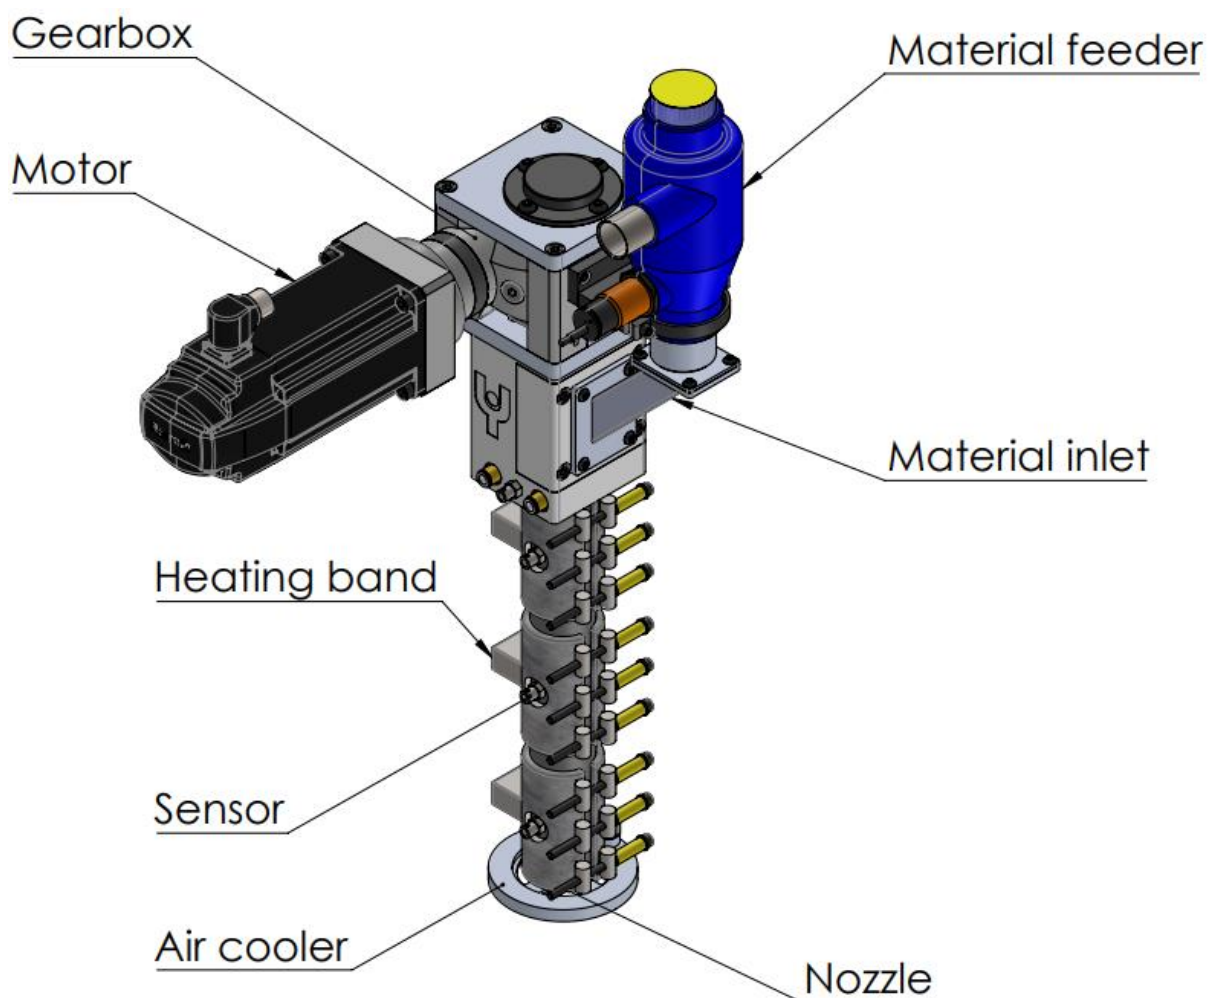

Figure 5 (The extruder)
- For detailed information on the individual spare parts of the extruder, see fig 5.